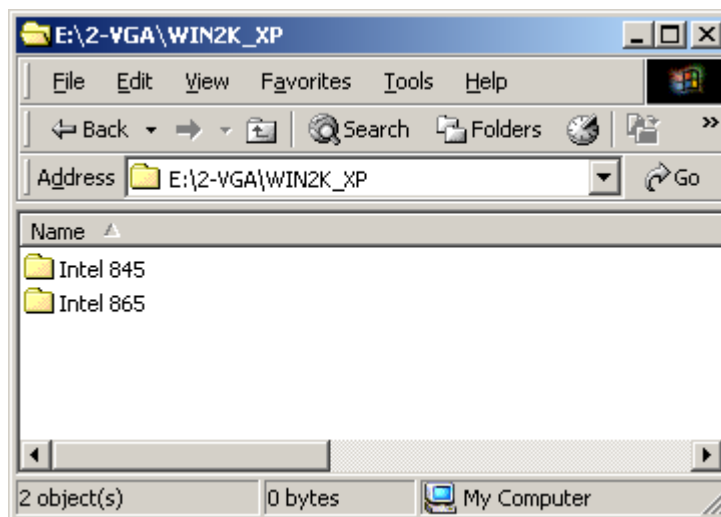

Figure 7-10: VGA Chipset Folder
Step 4: A new window appears (**Figure 7-10**).